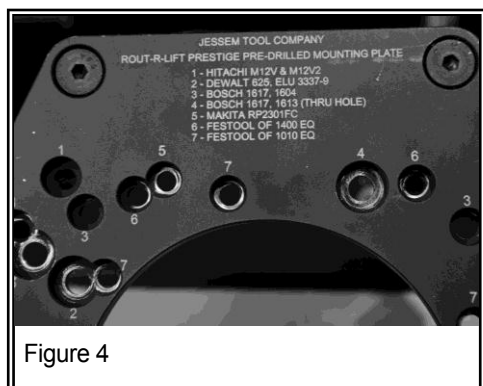

Figure 4
3. Turn the carriage plate over and locate your router using the diagram on the top of the plate. Refer to Figure 4 and